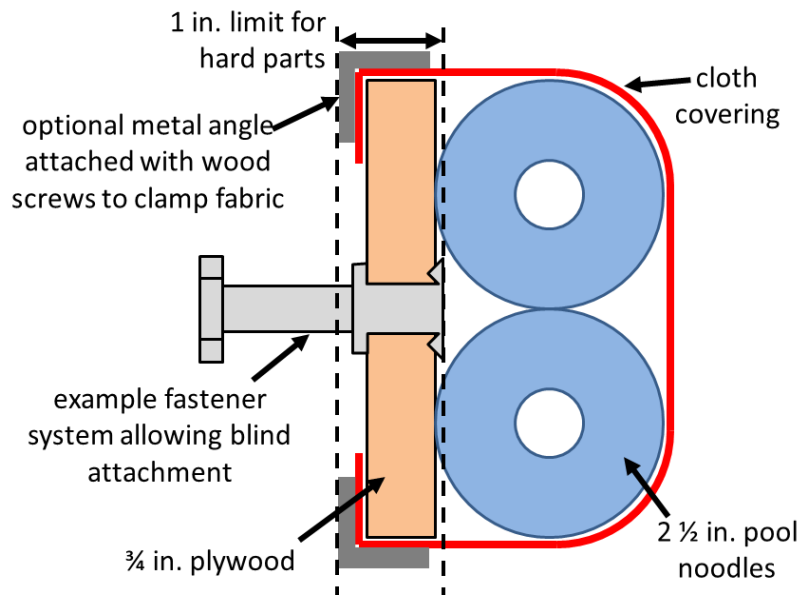
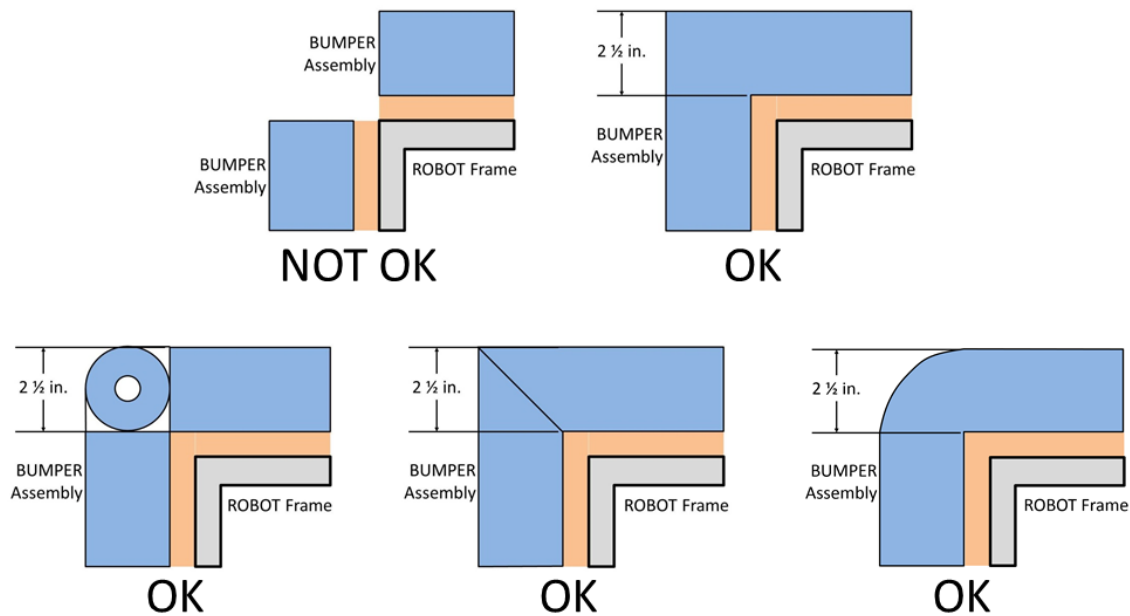

Figure 10-6 BUMPER Vertical Cross Section
Figure 10-7 Soft Parts of BUMPER Corners
- R31.** BUMPERS must be constructed as follows (see Figure 10-6):
- C. use a stacked pair of approximately 2½ in. (nominal) round, petal, or hex “pool noodles” (solid or hollow) as the BUMPER cushion material (see Figure 10-6). All pool noodles used in a BUMPER set (e.g. Red set of BUMPERS) may not be modified (with the exception of cutting to length or beveling ends) or deformed and must be the same diameter, cross-section, and density (e.g. all round hollow or all hex solid). Cushion material may extend up to 2½ in. (~63 mm) beyond the end of the plywood (see Figure 10-7). To assist in applying the fabric covering, soft fasteners may be used to attach the pool noodles to the wood backing, so long as the cross section in Figure 10-6 is not significantly altered (e.g. tape compressing the pool noodles).
- D. be covered with a rugged, smooth cloth. (multiple layers of cloth and seams are permitted if needed to accommodate R28, provided the cross section in Figure 10-6 is not significantly altered).
- E. optionally use metal angle, as shown in Figure 10-6 or other fasteners (e.g. staples, screws, etc.) to clamp cloth.
R32. Corner joints between BUMPERS must be filled with pool noodle material. Examples of implementation are shown in Figure 10-7.